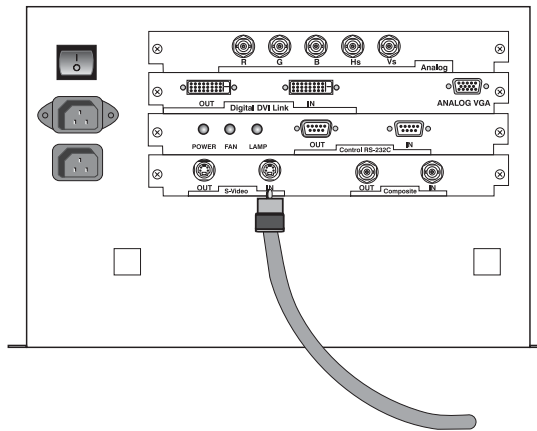

Figure 2.7. Connecting S-Video Sources
- S-Video** ➤ Connect a S-Video source to the S-Video IN connector on the input panel. Leave the OUT connector empty, unless you want to loop the S-Video signal through to the next display device. Figure 2.7.